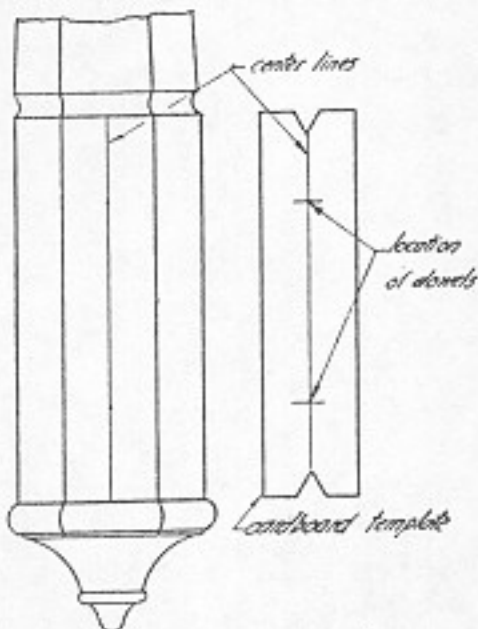

Fig. 222. Locating dowels with a template.
2. The triangular pieces are cut out of the template as shown, to help locate it directly over the center lines laid out on the stock, and the holes are pricked with an awl (Fig. 222).
2. Why are two triangular pieces cut out of the template shown in Figure 222?